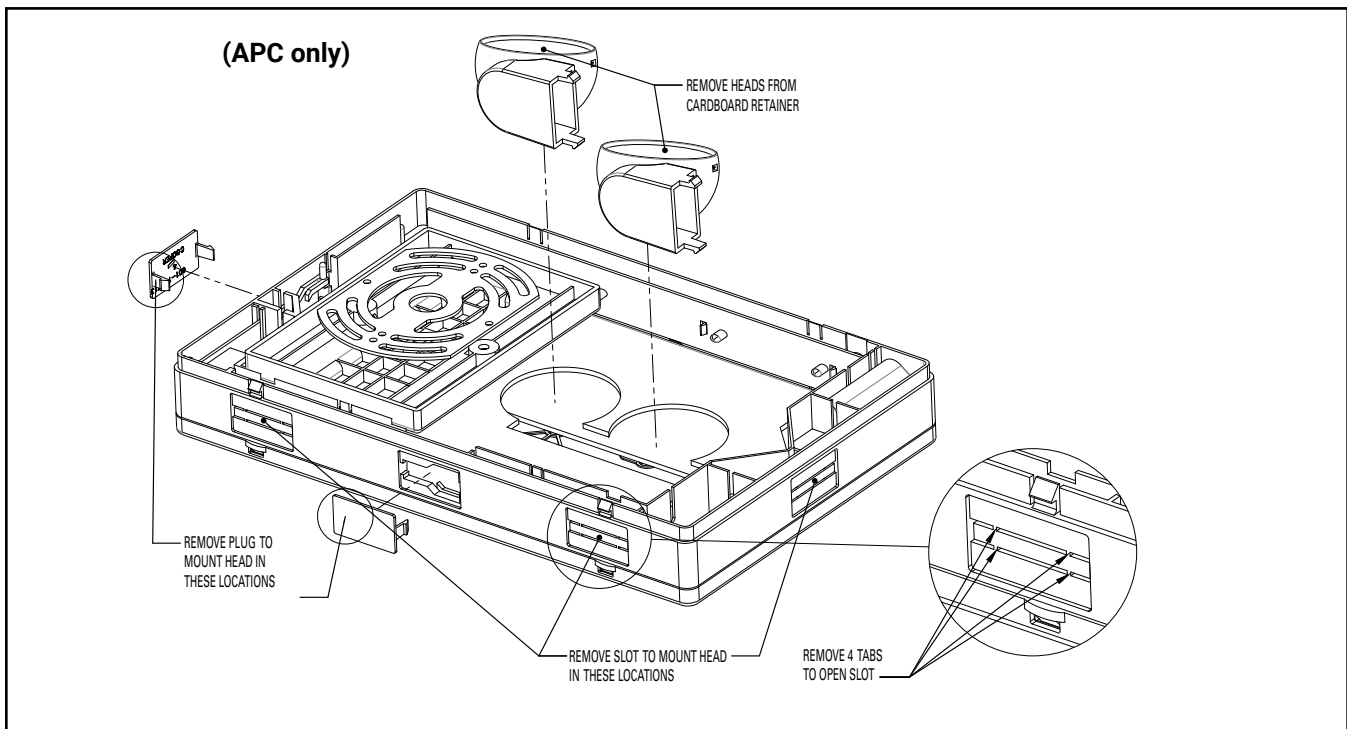

Figure 2
4. Select the mounting locations for the heads. Remove the appropriate hole plug or slot covers. See Figure 2.